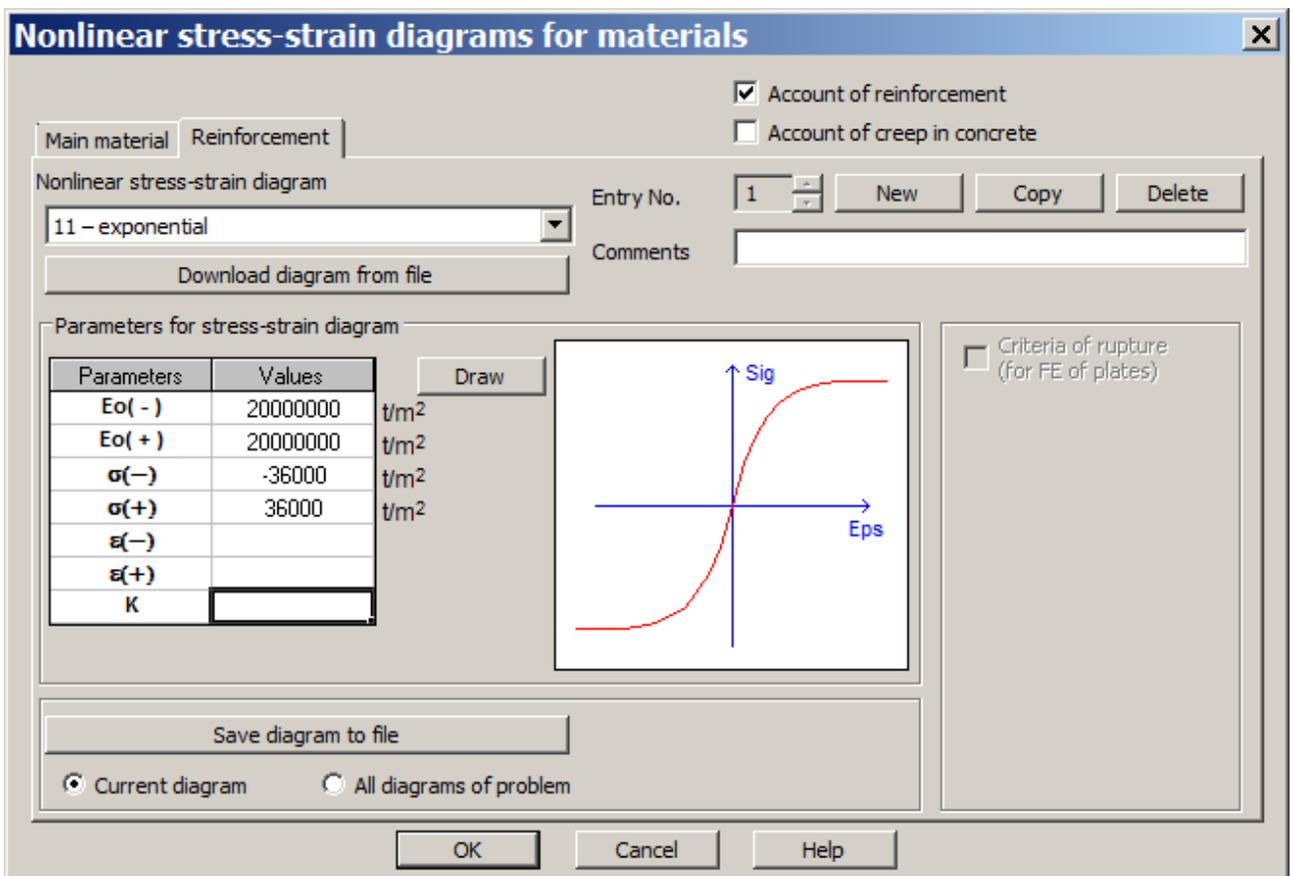

Figure 7.14 Nonlinear stress-strain diagrams for materials dialog box for reinforcement
- ⇒ In the same dialog box, click **Account of reinforcement** (see Figure 7.14) and select the **Reinforcement** tab.